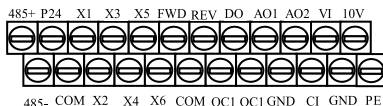

fig.3-7 CN2 terminal order
(2) Control Circuit CN2 terminal shown as fig.3-7